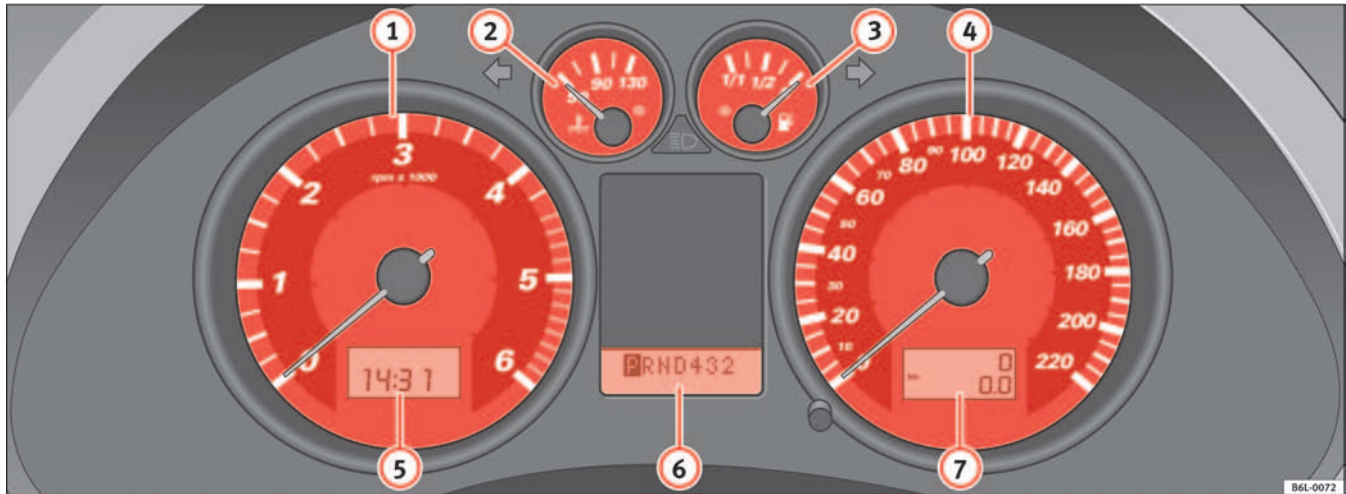

Fig. 32 Detail of the dash panel: Instruments
The start of the red zone on the dial ⇒ page 52, fig. 32 ④ indicates the maximum engine speed which may be used briefly when the engine is warm and after it has been run in properly. However, it is advisable to change up a gear or move the selector lever to D (or lift your foot off the accelerator) before the needle reaches the red zone.
- Turn the setting knob ⇒ page 52, fig. 32  anti-clockwise to the stop to set the hour. If the knob is turned briefly anti-clockwise the clock will advance one hour further.
The right-hand counter registers the short journeys. The last digit indicates steps of 100 metres. The trip recorder counter may be reset by the reset button ⇒ page 52, fig. 32 .